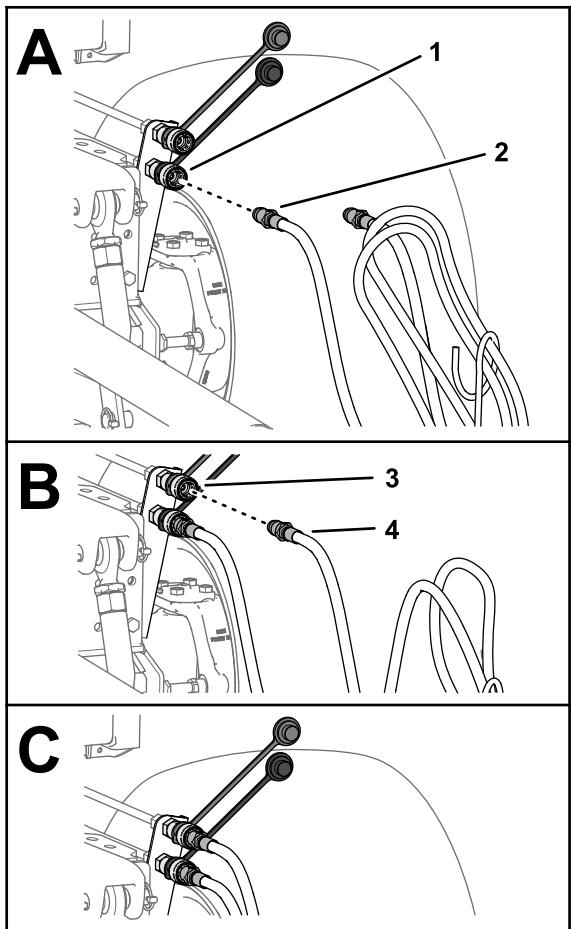

Figure 31
7. Connect the quick-disconnect fitting of the attachment extend hose to the quick-disconnect fitting of the extend circuit (Figure 31).
8. Connect the quick-disconnect fitting of the attachment retract hose to the quick-disconnect fitting of the retract circuit (Figure 31).